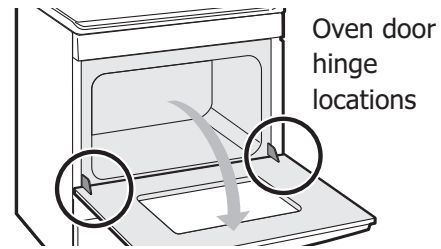

Figure 35: Door hinge location
1. Open oven door completely, horizontal with floor (See Figure 35).
3. Fully open the oven door, horizontal with floor (See Figure 35).